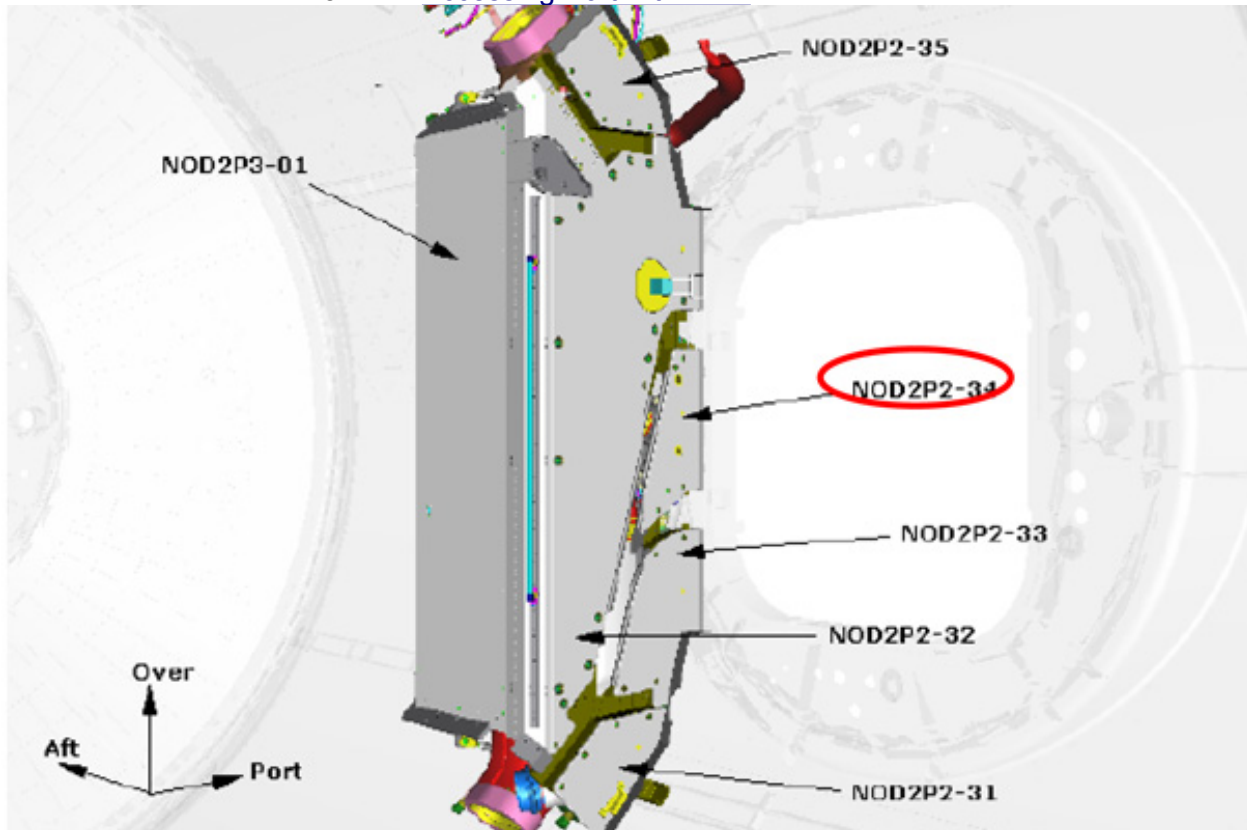

Figure 2. Node 2 Port Aft Closeout Panels.
- 15.1.1 Remove Closeout Panel, NOD2P2-34, fasteners (four), (Driver Handle, 1/4" Drive; 5/32" Hex Head, 1/4" Drive). Refer to Figure 2.
Refer to Figures 2, 5.